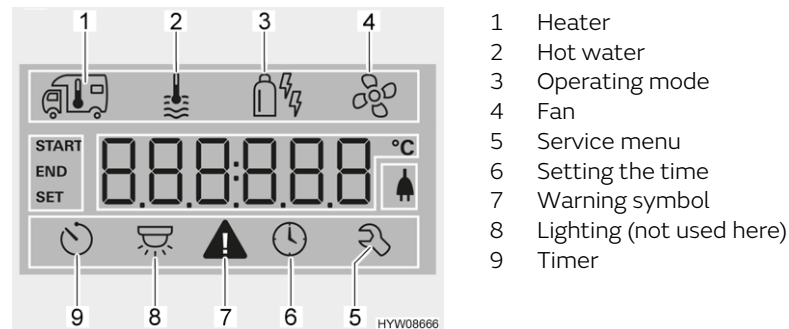

Fig. 79 Display (operating unit)
- Turn the rotary push button (Fig. 78,6) until the heater menu symbol (Fig. 79,1) flashes.
- Turn the rotary push button (Fig. 78,6) until the hot water menu symbol (Fig. 79,2) flashes.
- Turn rotary push button (Fig. 78,6) until the menu symbol operating mode (Fig. 79,3) flashes.
- Turn the rotary push button (Fig. 78,6) until the fan menu symbol (Fig. 79,4) flashes.
- Turn the rotary push button (Fig. 78,6) until the timer menu symbol (Fig. 79,9) flashes.
- Press the rotary push button. The timer is activated. The timer symbol (Fig. 79,9) flashes when the timer is programmed and active.
The warning symbol (Fig. 79,7) flashes in the event of a warning. The heater continues to operate. In the event of only a temporary fault, the warning symbol goes out automatically.